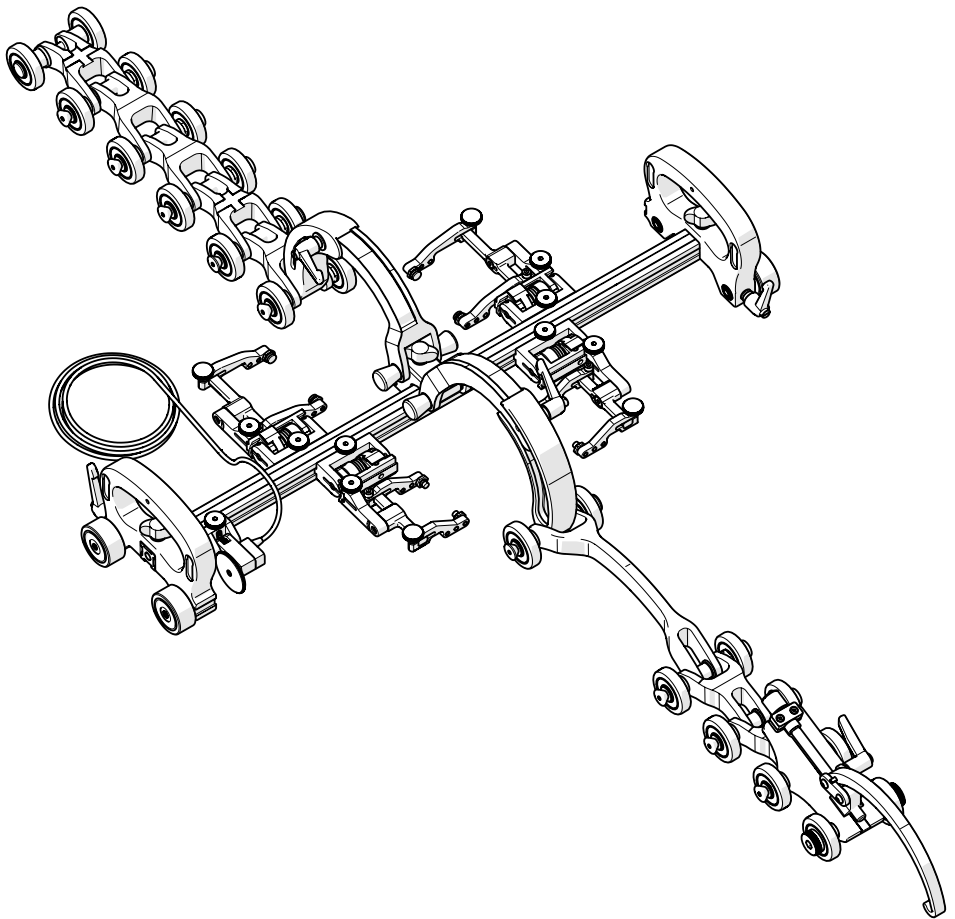

Fig. 123 - Assemble configuration
3. On a flat surface, connect the appropriate number of links (see *Chain Connection* on page 13) as indicated on the **ROTIX** setup chart. Arrange the link setup so the buckle and catch link will be 180° opposite the scanner body (Fig. 123).